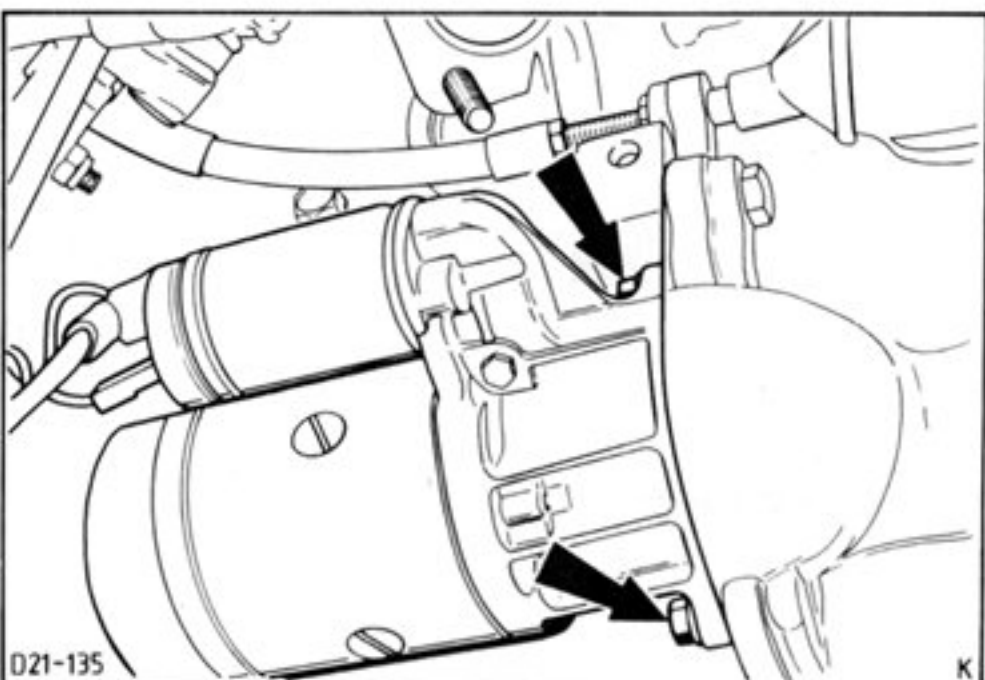

Fig.78. Remove starter motor.
10. Install starter motor and connect starter cable, Fig.78.